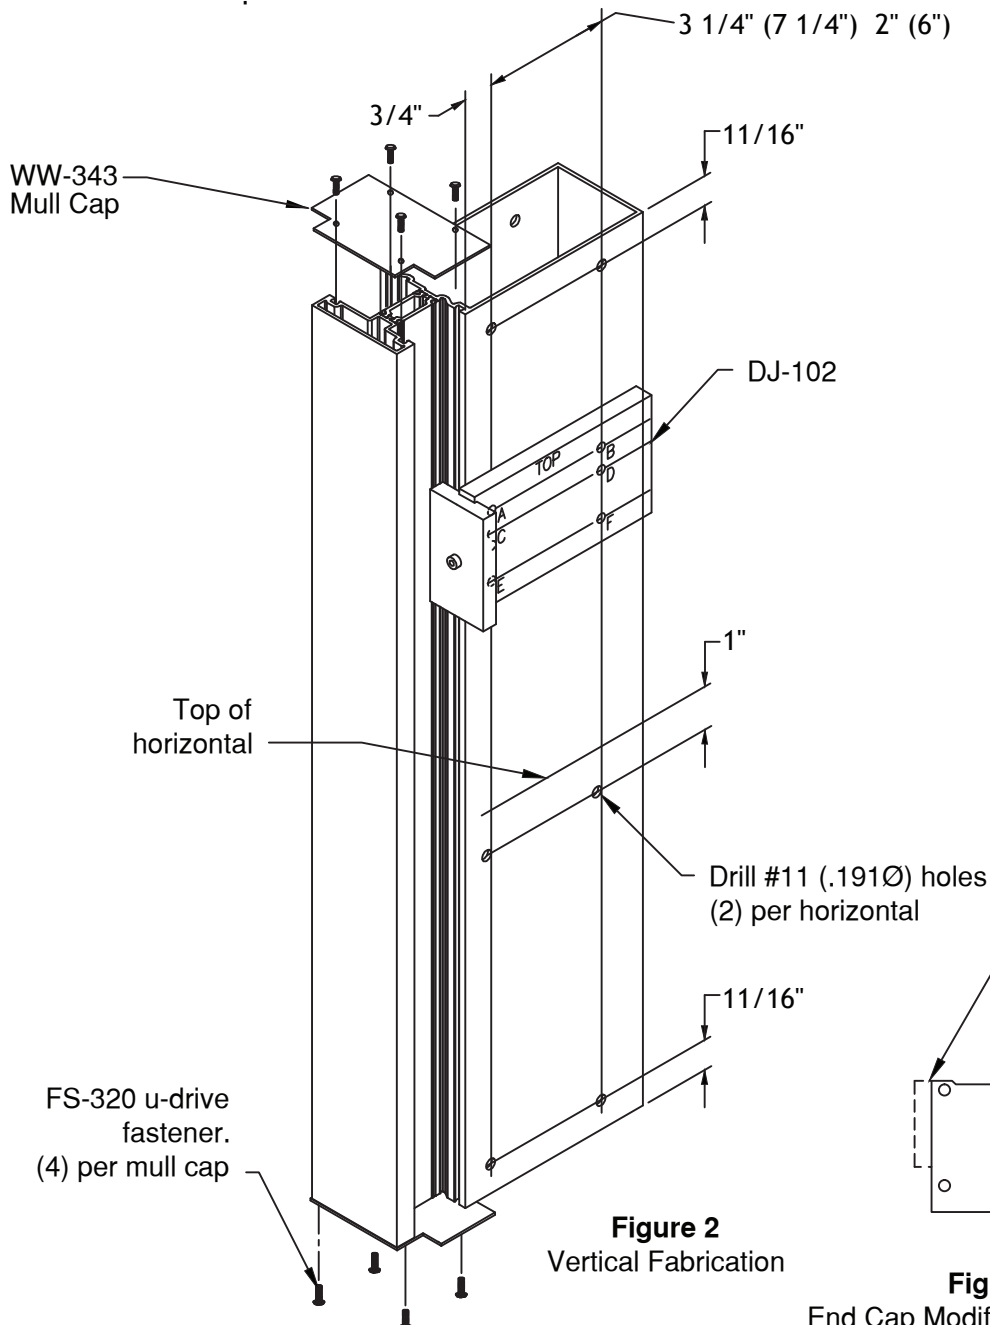
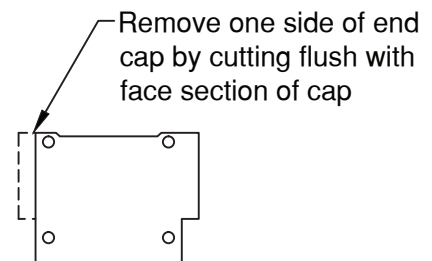

Figure 2
Figure 3
- 1.3 Fabricate vertical mullions for horizontal members using the DJ-102 drill jig or layout shown in **FIGURE 2**. Drill holes for head shear blocks using holes "A" & "B" (6" system) or "A" & "C" (7 1/4" system). For horizontal shear blocks, use holes "D" and "E" (6" system) or "D" & "F" (7 1/4" system). Align top of jig with top of vertical for head members and top of horizontal for the intermediate horizontals. For sill members, align bottom of jig with bottom of vertical using holes "G" & "H" (6" system) or "G" & "J" (7 1/4" system). **SEE FIGURE 2**.
- 1.4 Install and seal end caps to top and bottom of all jamb and intermediate vertical mullions with (4) FS-320 #10 x 1/2" drive screws. **SEE FIGURE 2**. Modify end cap at jambs as shown in **FIGURE 3**